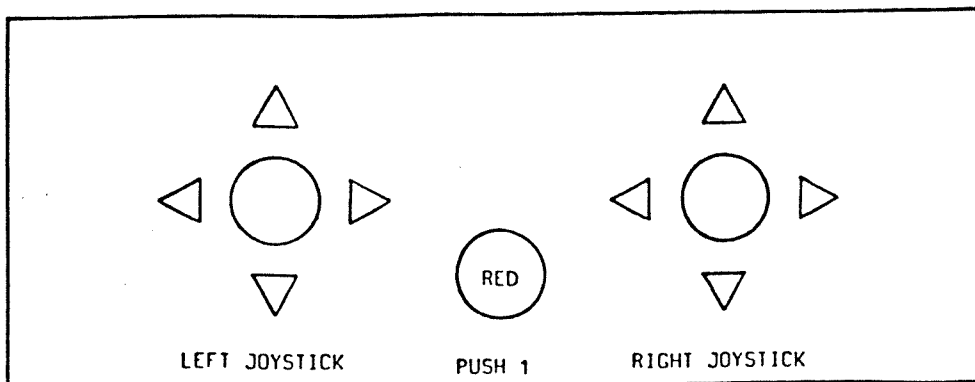

FIGURE 2
**Control Panel:** This is never any fun, so lets do it first and get it out of the way. Examine the suggested control panel layout drawing (fig. 2) and see what holes you will have to add and/or plug.
Install the control panel overlay by peeling off the paper backing and carefully lowering it down on to the panel. Smooth it out starting from the center and work your way out to the edges, removing all of the trapped air pockets. Using a sharp blade, cut out all of the required holes and mount the controls as shown in the layout drawing (fig. 2). Mount the completed control panel to the cabinet.